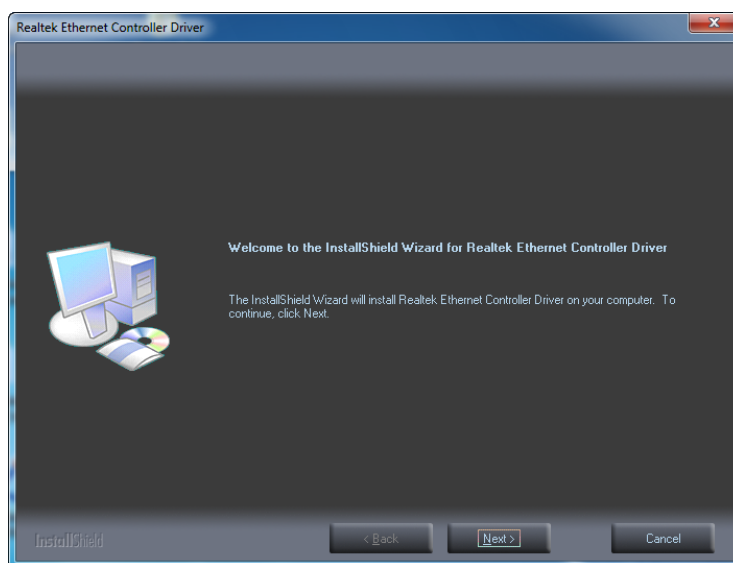

Figure 5-26: LAN Driver Welcome Screen
Step 4: The **Welcome** screen in **Figure 5-26** appears.